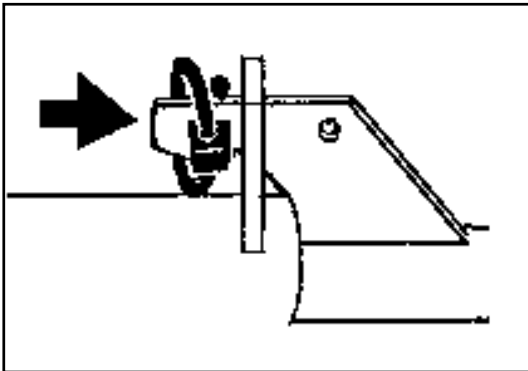

Figure 3-7
- Attach the tine arms and fix them (figure 3-7)